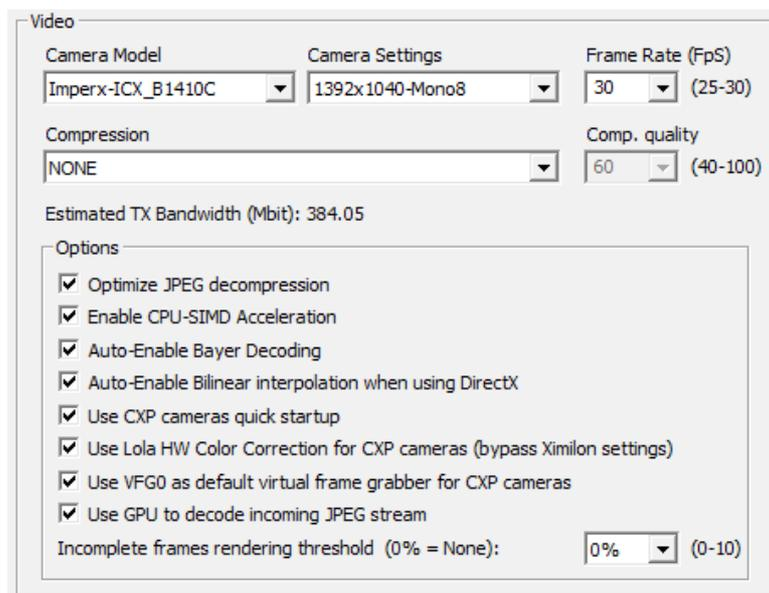

Figure 10: Lola Setup, Video section
- **“Incomplete frames rendering threshold”**: when using uncompressed video you can also select the incomplete frames rendering threshold (Fig. 10); 0% means that Lola must receive ALL video packets from the remote host in order to correctly render the entire video frame. Setting a percentage between 1% to 10% means that LOLA can render the video frame also if it hasn't received all the necessary packets to rebuild the entire frame: in case of some lost network packets, this results in small black lines randomly rendered on the display surface. In normal operation conditions, there shall be no lost data packets, thus this parameter shall be left 0% (which is the default value). Use it only if you experience some small network problems which affects video.